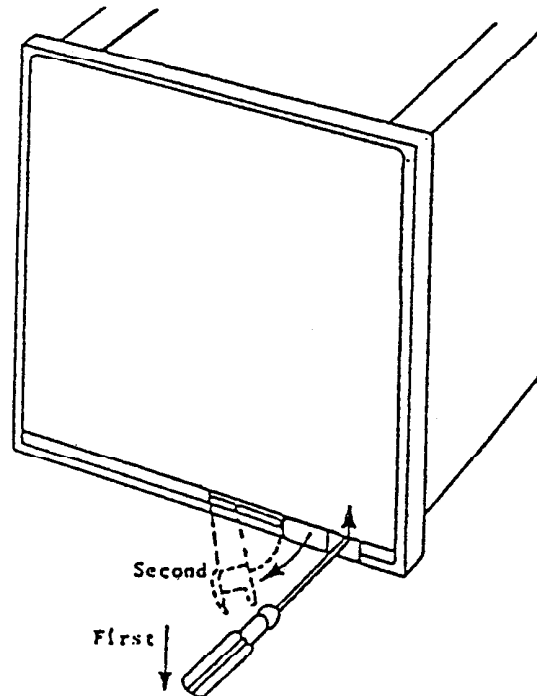

FIGURE 5-1 WITHDRAWING THE CONTROLLER FROM ITS CASE
- 1) Insert a small screwdriver into the slot at the lower right hand corner of the front panel, gently lever up the catch and pull out the lever until it is at 90°. See Fig. 5-1.